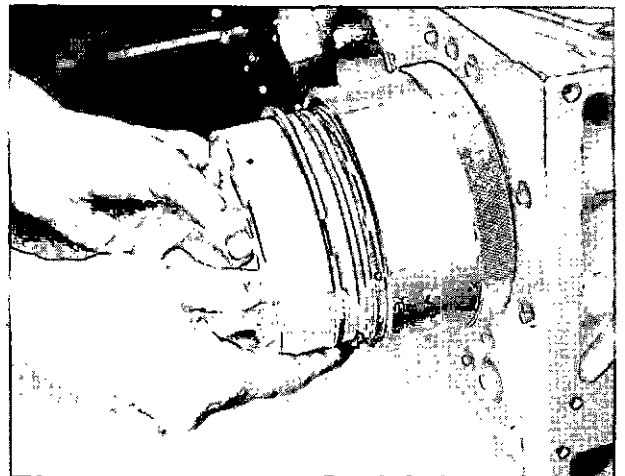
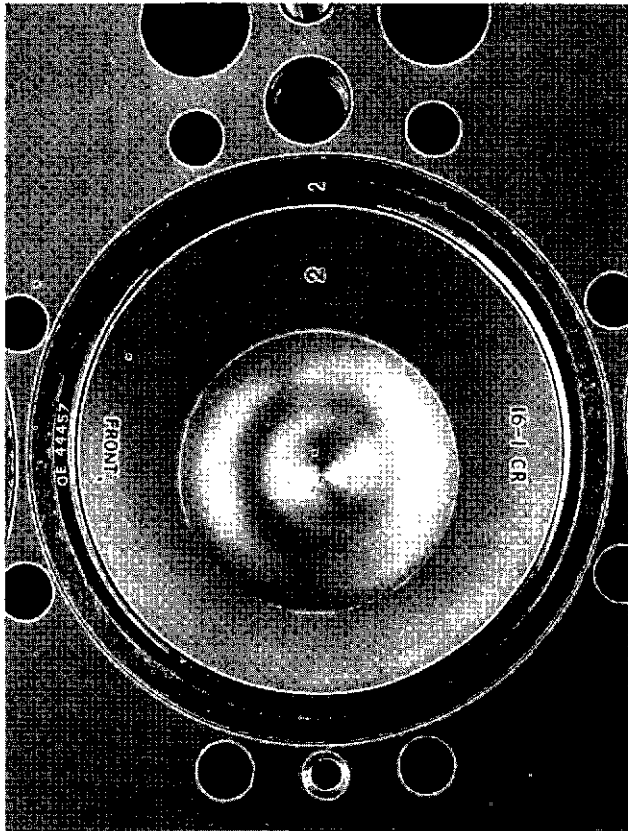

Fig. 13 Fitting piston and connecting rod T720041
Fig. 14 Correlation of piston and liner to crankcase
On each liner in turn, apply Linalube — Part No. OE. 45113 (NOT grease) to the skirt and fit new sealing rings as illustrated in fig. 1, ensuring that each ring takes up the position shown and is not twisted. An improved ring OE. 46017, having a blue-and-white paint marking, is now in use. Apply 'Linalube' to the crankcase in the skirt area and insert the liner into its correct numerical position (numbering is from front to rear), aligning the position number etched on the spigot to the large coolant port (fig. 14). Use tool GA. 629 to press the liner fully home (fig. 2). Do NOT drive the liner in, or damage may result.
12. **Connecting rods and pistons.** With these components assembled together as described in Section 7, oil the pistons, stagger the ring gaps and, using tool GA.12 to compress the rings (fig. 13), enter each assembly into its liner, with the relative position of piston to crankcase as shown in fig. 14. Guide the connecting-rod towards the crankpin, oil the bearings, and assemble the big-ends with the correlation marks aligned. Fit the big-end bolts, oil their threads and tighten the nuts to 160 lbf.ft. (220 Nm) or alternatively until the bolts have stretched 0.008 to 0.011 inch (0.20 to 0.27 mm). No locking is necessary.